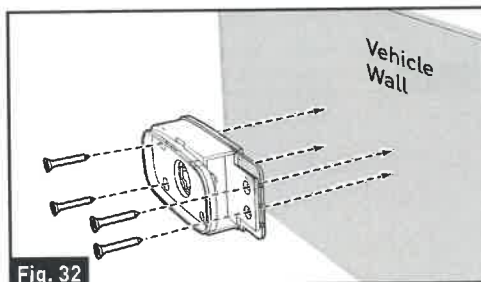

Fig. 32
5. Secure the traffic light base on the vehicle wall using four flat self-tapping screws (quad drive flat head #6 x 3/4" self-drilling wood screw). (Fig. 32)